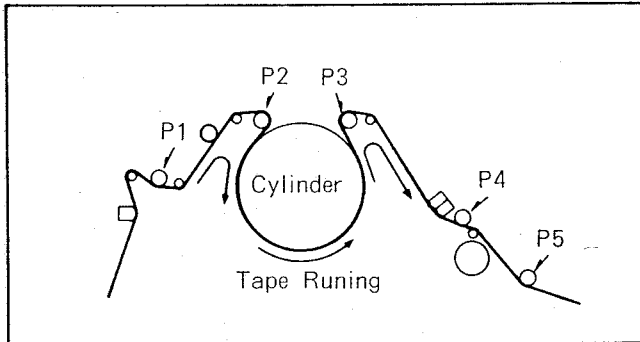
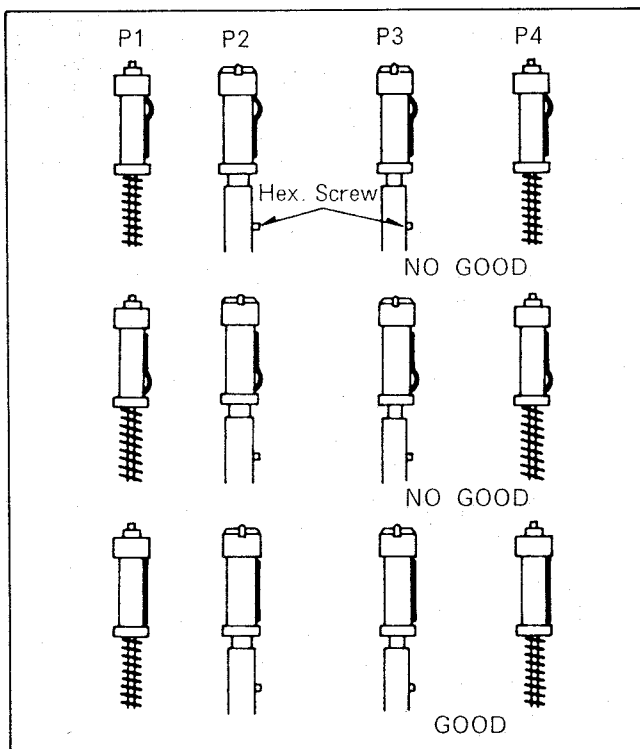

Fig. M4 Tape Transport Posts
Fig. M5 Tape Guide Posts
Playback the normal cassette tape and confirm that the tape travels without any curling at the edges of all the posts by using the check light. (Fig. M4 and Fig. M5)
2. If curling is apparent, adjust the height of posts by turning the top of post with the post adjustment screwdriver (posts P2 and P3) or the nut-driver (Posts P1 and P4). (Fig. M4 and M5)